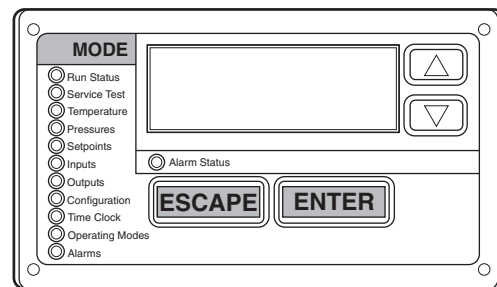

Fig. 1 — Scrolling Marquee
**Scrolling Marquee** — This device is the standard interface used to access the control information, read sensor values, and test the unit. The scrolling marquee is located in the main control box. The scrolling marquee display is a 4-key, 4-character LED (light-emitting diode) display module. The display also contains an Alarm Status LED. See Fig. 1. The display is easy to operate using 4 buttons and a group of 11 LEDs that
**Operation** — All units are shipped from the factory with the scrolling marquee display, which is located in the main control box. See Fig. 1. In addition, the *ComfortLink* controls also support the use of the handheld Navigator display.